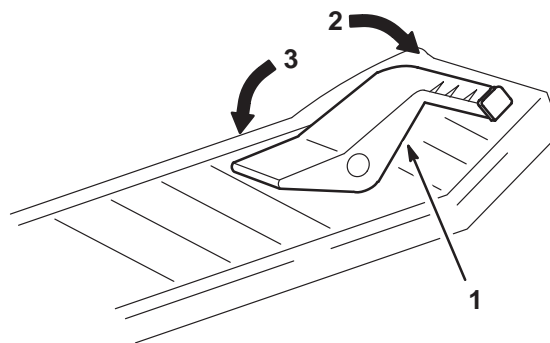

Figure 14
- Place your foot on the ground speed pedal (Fig. 14) and slowly press on the top of the pedal to move forward or on the bottom of the pedal to move backward.